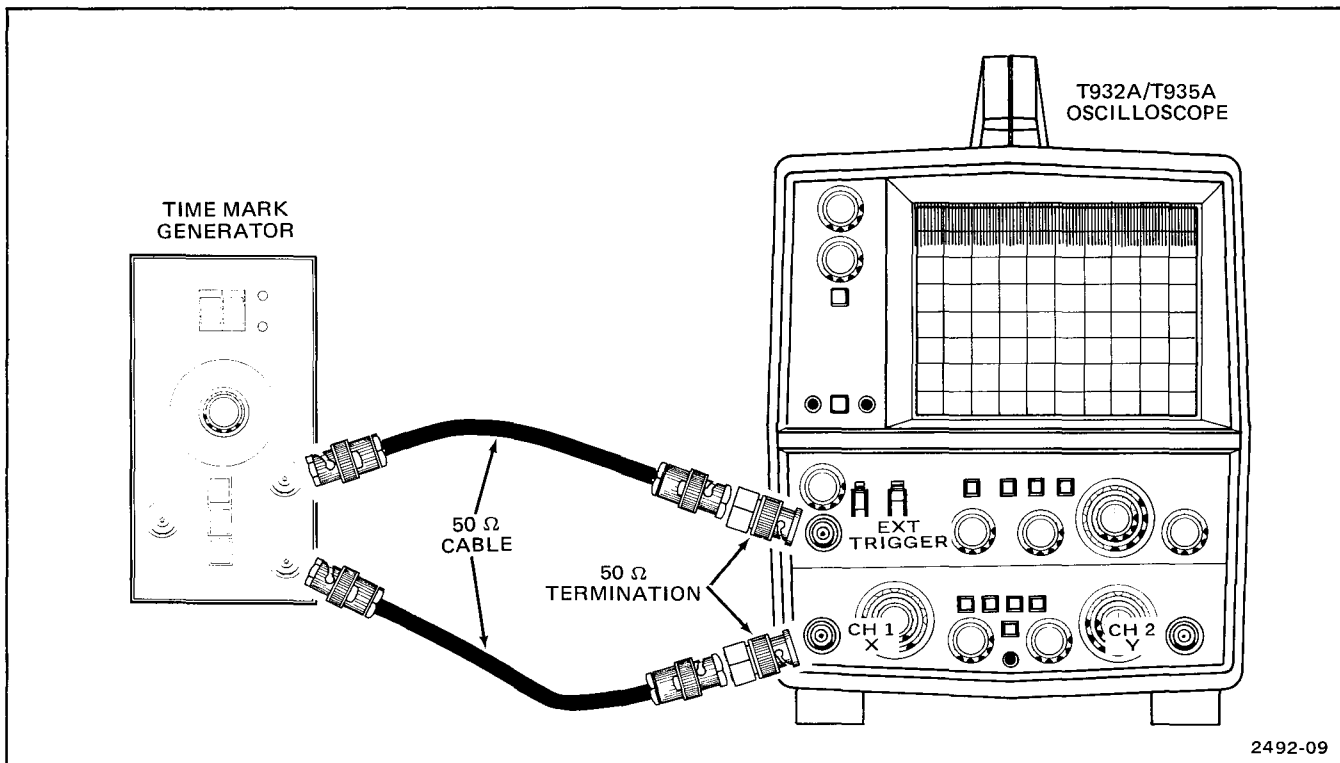

Fig. 3-4. Timing accuracy and delay time check test setup.
a. Connect test setup as shown in Fig. 3-4.